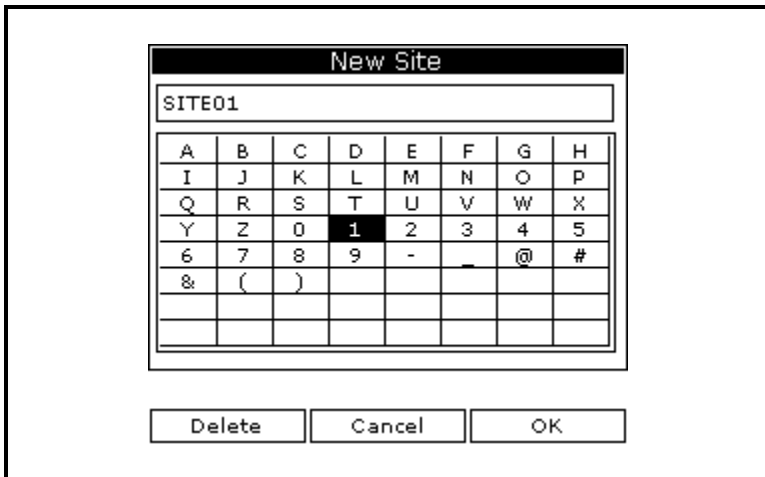

Figure 1-8: Name Entry Window for a New Site
1. Use the arrow keys to scroll to **New** and press [ENTER]. The screen appears similar to Figure 1-8 below.